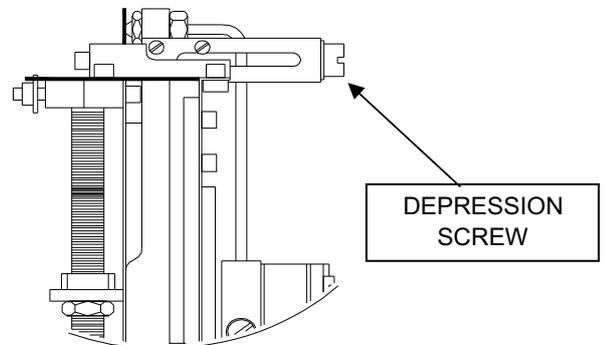

Fig.4.2 DEPRESSION DEVICE
- 3) Use the depression screw (Fig.4.2) to obtain a 3 psi transmitter output